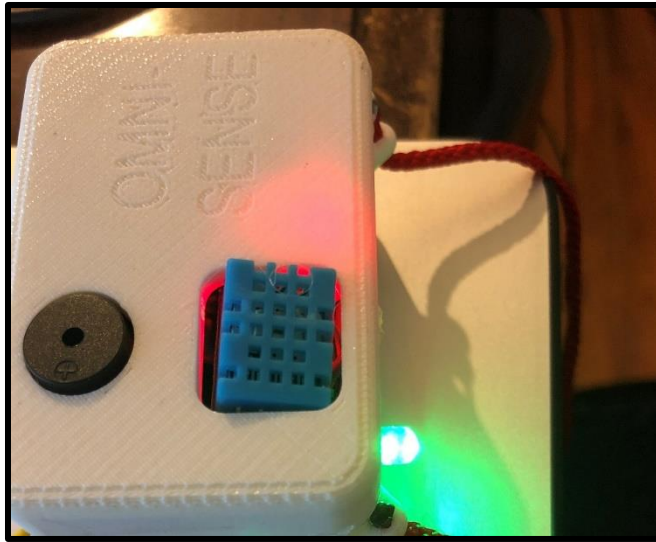
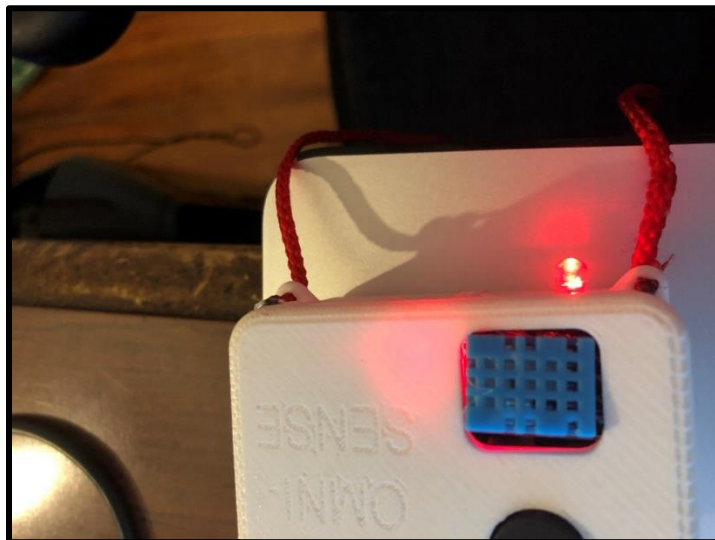
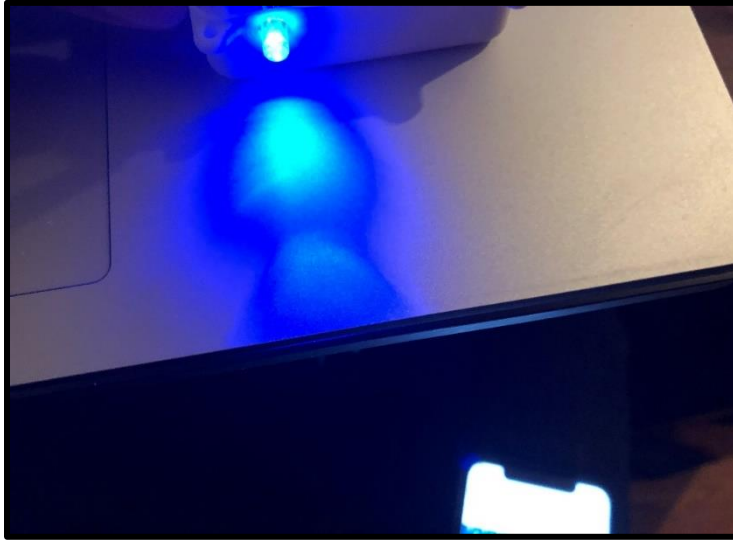

Figure 2
Figure 3
Figure 4
Step 3. Verify that Omni-Sense is operational. A green light indicates that the conditions are safe based on specified parameters (**Figure 2**).
When temperature and/or humidity are above the specified parameters, Omni-Sense will warn the user with a red light indicator and audible buzzer (**Figure 3**). The light will return to green and the buzzer will turn off when a safe level of temperature or humidity are returned (**Figure 2**).
When temperature is below the specified parameters, Omni-Sense will warn the user with a blue light indicator and audible buzzer (**Figure 4**). The light will return to green and the buzzer will turn off when a safe level of temperature is returned (**Figure 2**).